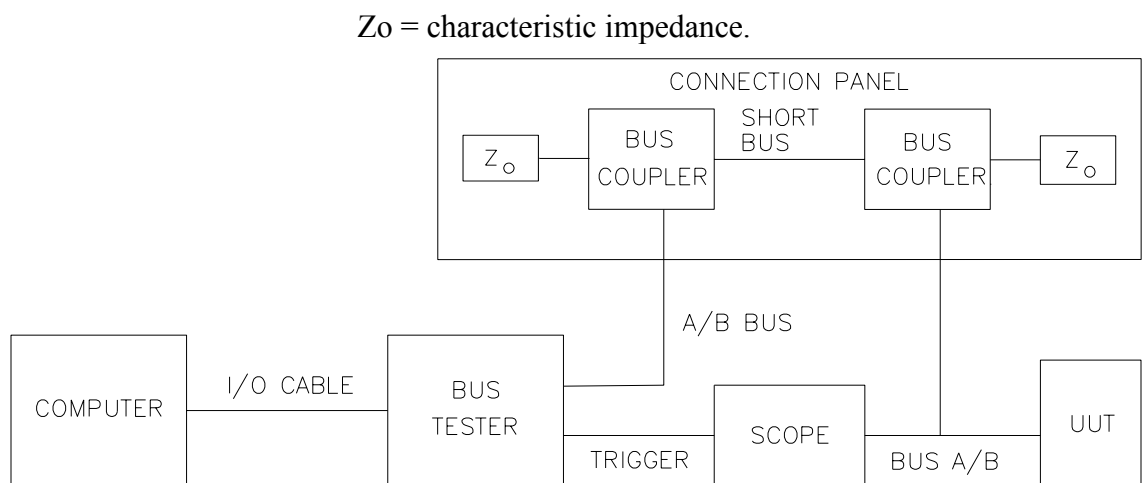
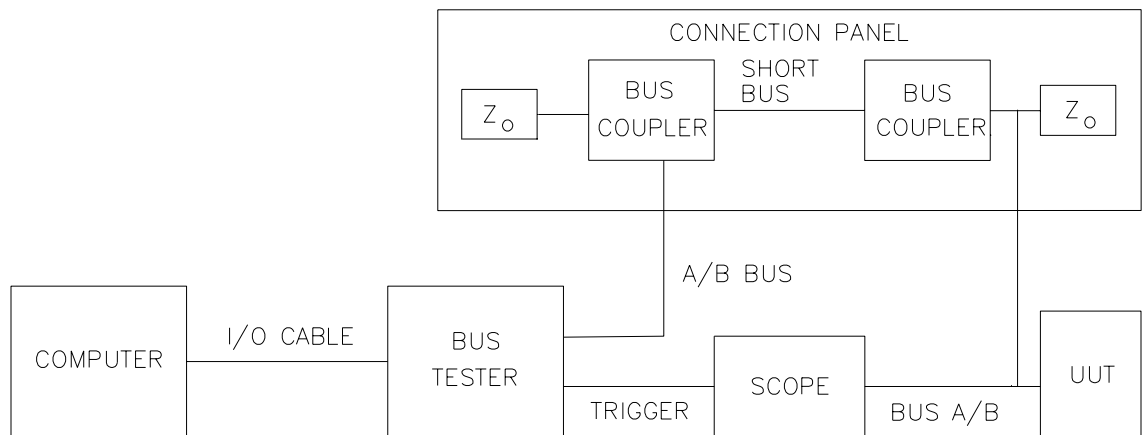

Figure 5. Rise/Fall Time Transformer Coupled Configuration
Figure 6. Rise/Fall Time Direct Coupled Configuration
1. Connect the equipment as shown in Figure 5 or Figure 6 for the bus to be tested. Connect the 1553 BUS TESTER and the UUT to the appropriate short bus connectors on the CONNECTION PANEL for transformer coupling or direct coupling. See Figure 1B of the RT Validation Test Plan for the General Bus Configuration.